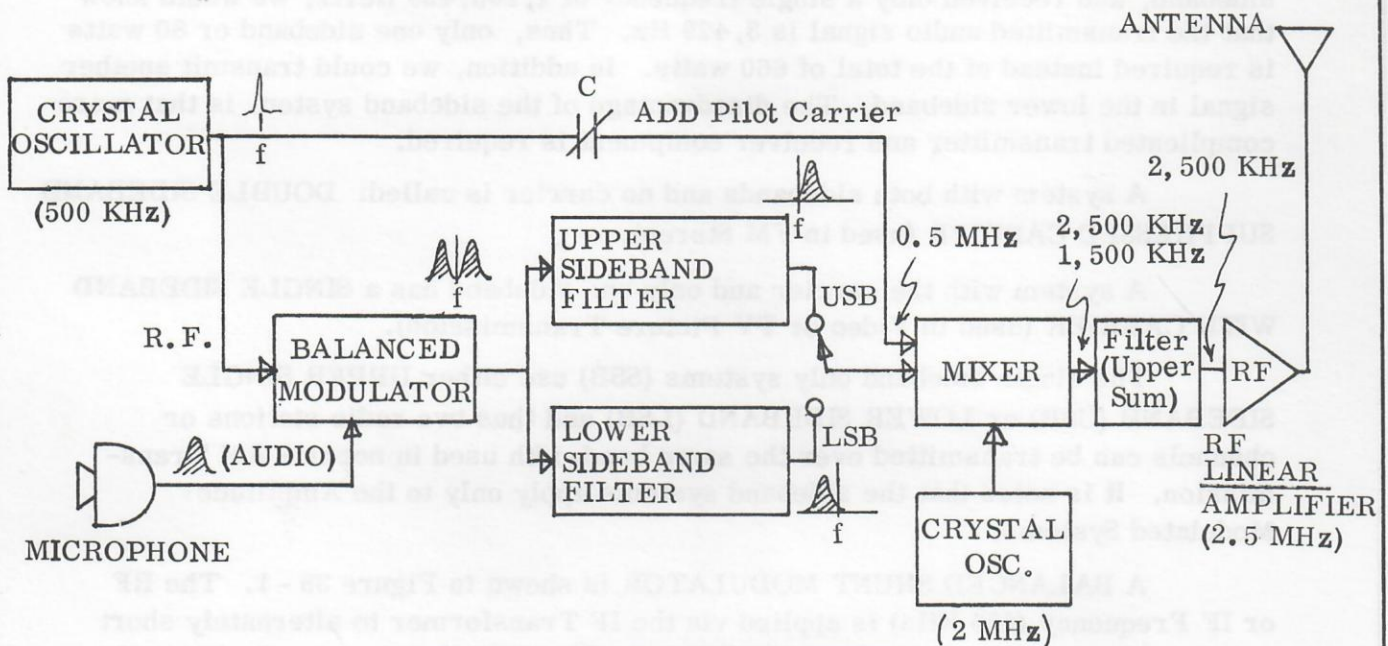

Figure 38-4 SSB TRANSMITTER
A Single Sideband Transmitting System is shown in the Block Diagram in Figure 38-4.
6. The above output is a Double Sideband Suppressed Carrier Signal. If only a Single Sideband is desired, an output filter is used to eliminate one of the sidebands as shown in the Block Diagram in Figure 38-4.